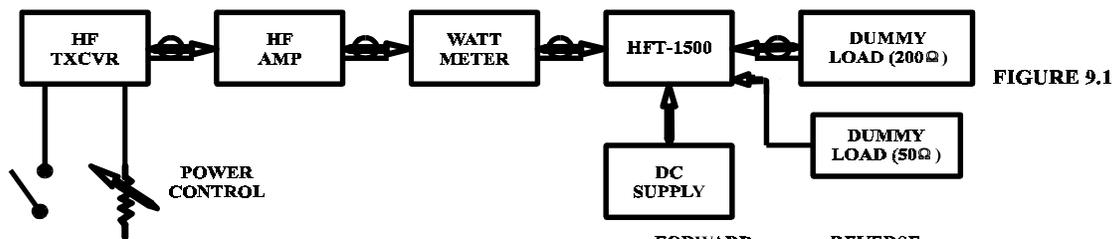

FIGURE 9.1
- Connect the HFT-1500 as depicted in Figure 9.1.